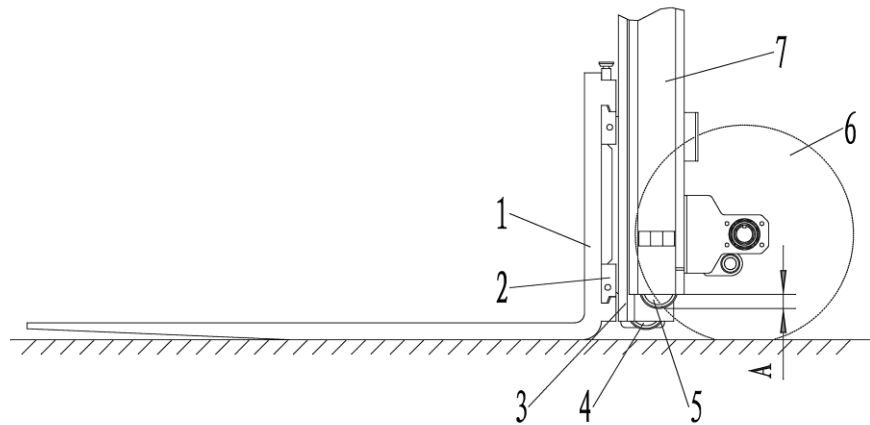

Figure 2-57
7.5.2 Height adjustment of the fork frame (Figure 2-57)